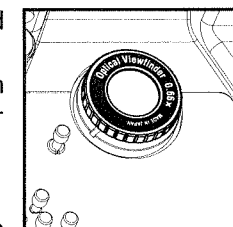

Fig.21
1. Loosen the viewfinder unit attached to rear case by turning counterclockwise and remove (Fig. 21).